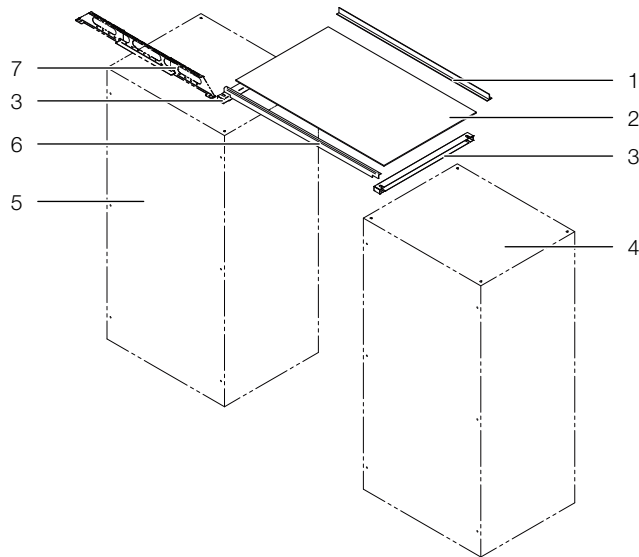
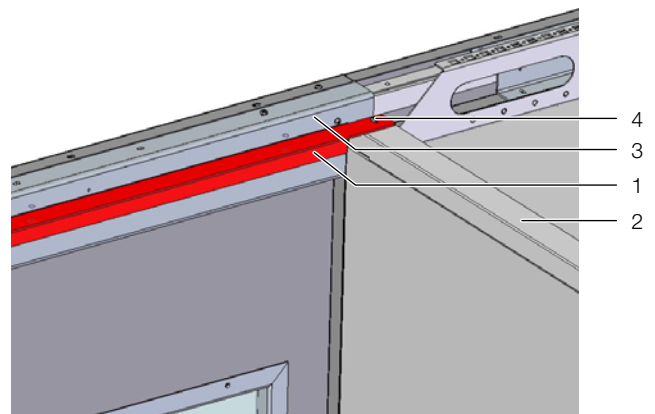

Fig. 45: Aisle covering start/end
Fig. 47: Roof bracket start installation
- Place the aisle elevations (fig. 45, item 3) on the IT enclosure roof and push under the head of the fastening screw of the IT enclosure roof.
- Place the roof bracket start (fig. 45, item 6) on the aisle elevation and fasten with two 4.2 x 9.5 mm oval-head self-tapping screws through the predrilled holes to the aisle elevation (see fig. 47).
- Attach 15 x 3 mm sealing tape to the roof bracket start (fig. 47, item 6) on the door element and to the centre on all roof brackets over their complete width.
- Attach 15 x 5 mm sealing tape (fig. 47, item 3) at the start on both aisle elevations on the left- and right-hand IT enclosure suite.
- Place the polycarbonate panel and align it to the roof bracket start (fig. 47, item 6).